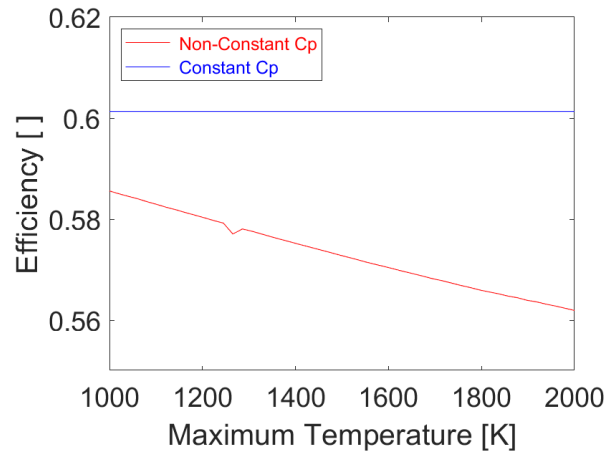

Figure 4 - Varying efficiency with changes in combustor maximum temperature
- Figure 4 shows that efficiency of the cycle with varying maximum combustor temperature is constant, but non-constant specific heat provides a decrease in efficiency due to the error involved in specific enthalpy of each state within the cycle with increase temperature differences.